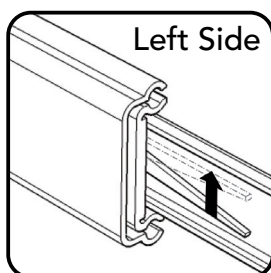

Figure 5
Note: To remove Drawers (M) and keyboard in future, push plastic lever on left side up, push plastic lever on right side down and pull open. (See Figures 5 and 6)